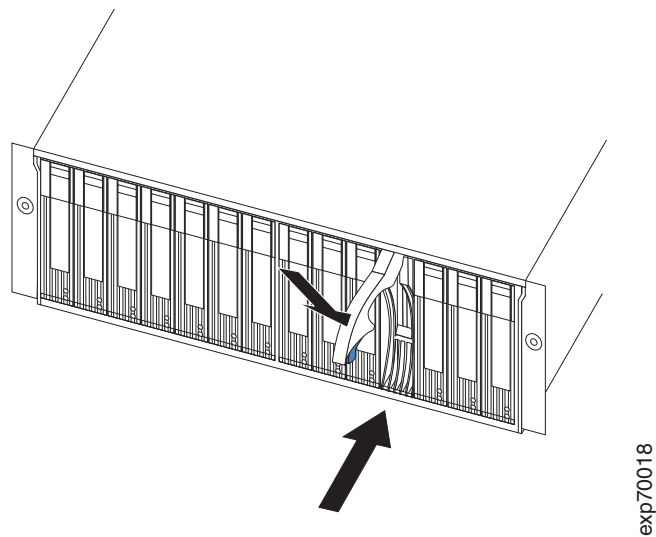

Figure 50. Closing the hot-swap hard disk drive tray handle
- d. Push the tray handle down into the closed (latched) position, as shown in Figure 50.
- b. Push the tray handle down into the closed (latched) position, as shown in Figure 50 on page 69.